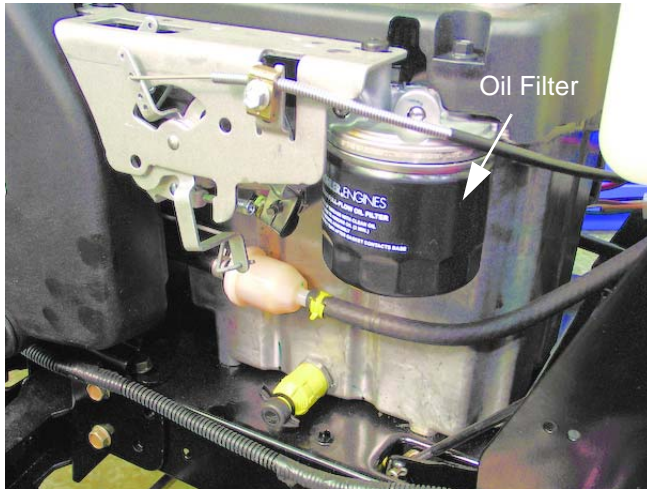

Figure 9.6
2. Remove the oil filter using an oil filter wrench. See Figure 9.6.